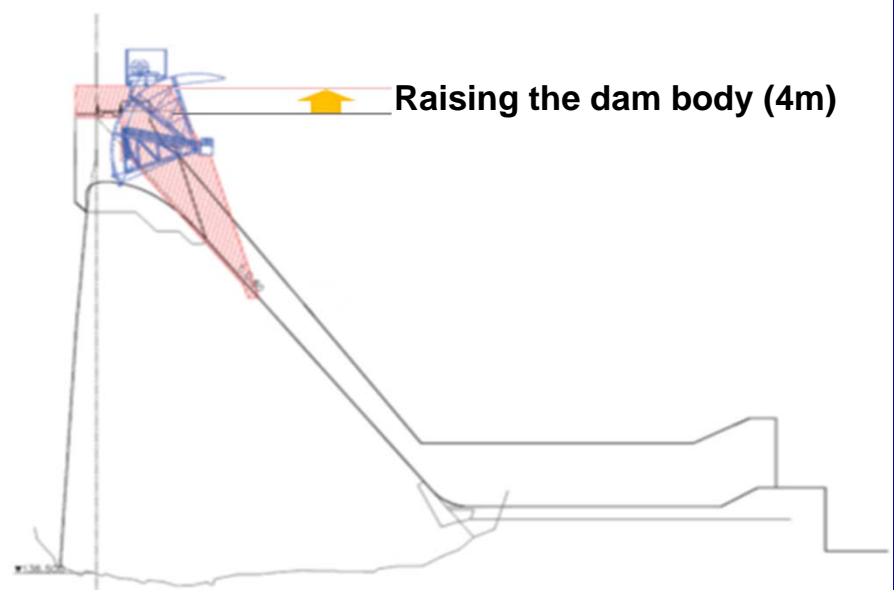

Fig.1-1b Kasabori Dam (small-scale project)
- Kasabori Dam in Niigata Pref.(Fig.1-1b)